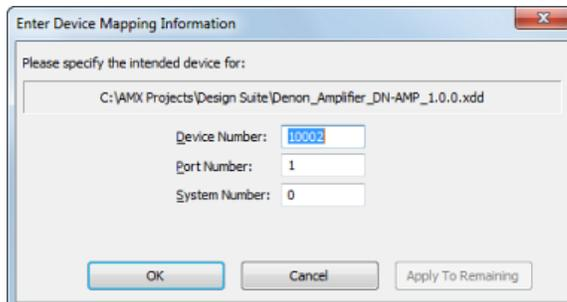

FIG. 113 Enter Device Mapping Information dialog
5. Select the Driver Design (*.XDD) file to transfer, and click **Open** to invoke the *Enter Device-Mapping Information* dialog (FIG. 113):